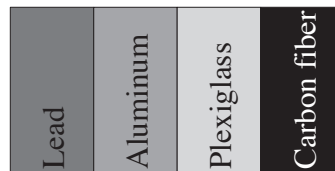

Figure 5.2.3: Distribution of materials in the test object.
The X-ray machines are not completely identical. If one of the transitions between the materials is not detectable, change a parameter and repeat the recording. Glue your final recording into the notebook underneath Fig. 5.2.3. On the last recording, the material dependent attenuation is apparent.
- ◇ Use Fig. 5.2.3 as a guide to assign the different sections of the image to the various materials. Where is the image of the air gap? Consider that (especially important in diagnostic recordings) without any additional information or markings serious mistakes in the assignment could be made.